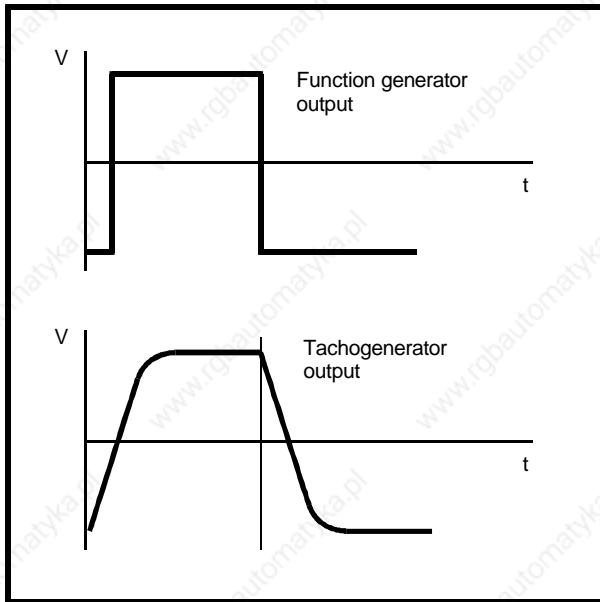

Figure A-4 Reduced speed of response caused by excessive derivative gain
- Reduced speed of response as shown in Figure A-4